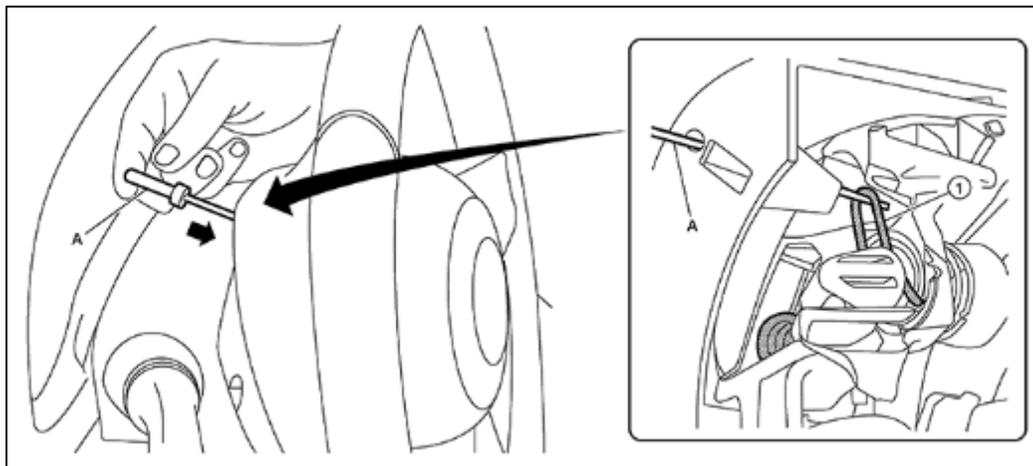

Figure 4
- Insert the Air Bag Release Tool, special tool J-52551 (A), into the access hole and under the spring (1), as shown in Figure 4.